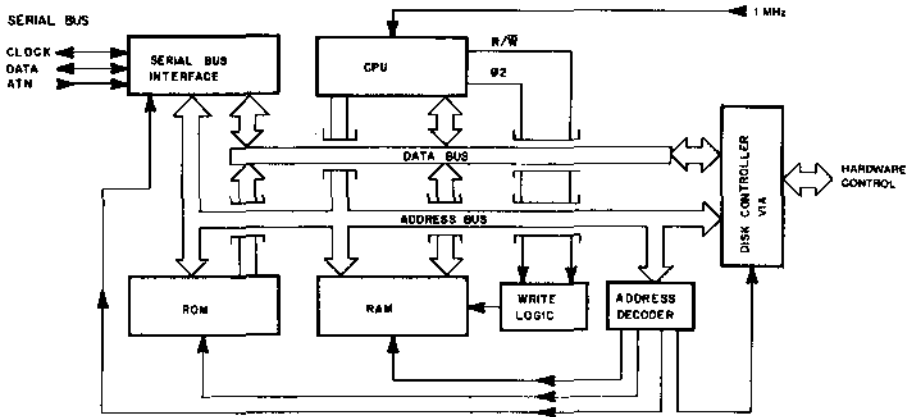

Fig. 7-7. Block diagram of computer circuit, Model 1540.
7.1.4 Computer Electrical Theory (Refer to Figs. 7-7 and 7-8)